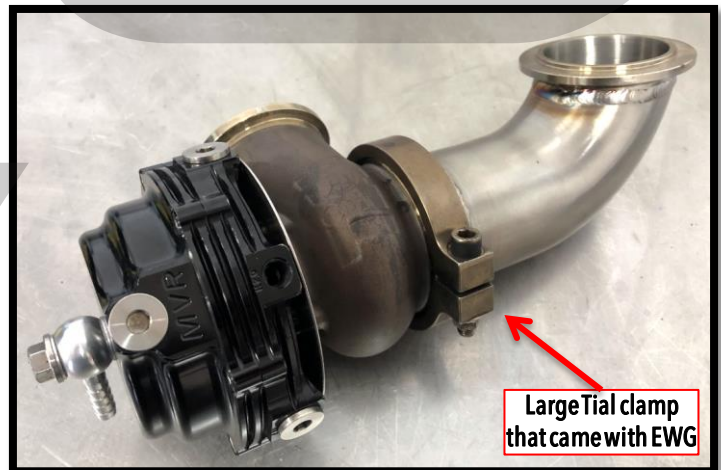

Figure 11b
- a) Install the supplied CorkSport EWG Elbow onto your EWG. Secure using the larger v-band clamp that came with your EWG. Tighten the clamp with a 3/16" Allen wrench and 8mm socket just enough so the components stay connected but are able to rotate freely. Shown in **Figure 11b**.